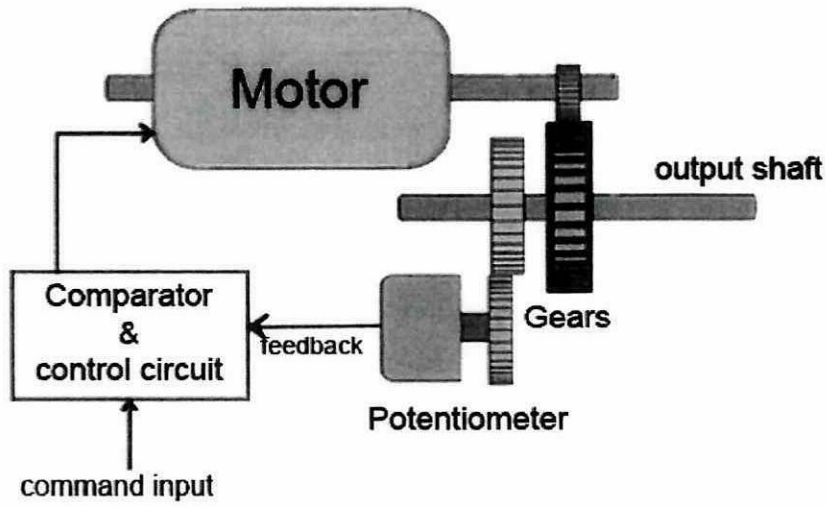

Figure Q1(d)
- (c) Optical proximity switch turns ON and OFF depending on the light's presence. There are **three (3)** basic configurations for these switches.
- (d) Motor is a main actuator in the industrial automation system. By referring to **Figure Q1(d)**, answer the following questions.